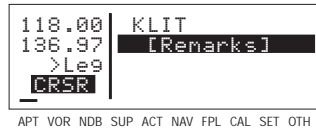

Figure 3-141
1. Turn on the cursor and move it until the cursor fills line 2 of the screen (figure 3-141).